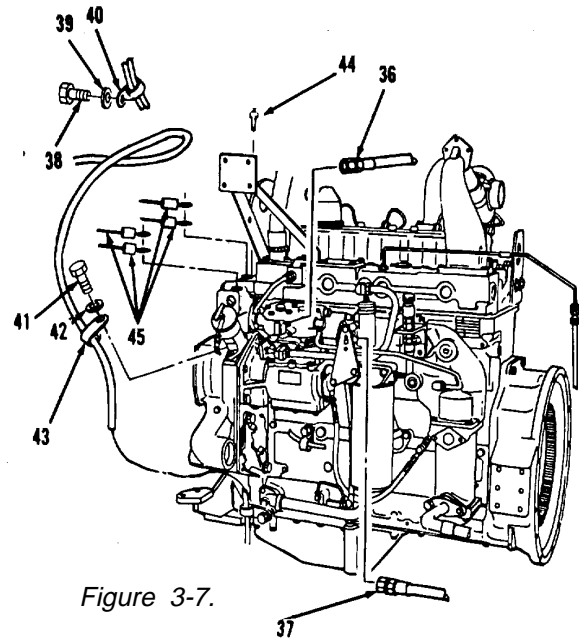

Figure 3-7.
- 23. Remove 12 bolts (34) and engine, disconnecting engine-to-transmission adapter from engine.
- 24. Disconnect hose assemblies (36 and 37, Figure 3-7) from air compressor and air compressor governor on left side of engine.
- 25. Remove bolt (38), washer (39) and clip (40) from supplemental steering motor mounting bracket on front of engine.
- 26. Remove bolt (41), washer (42) and clip (43) from front, left side of engine.
- 27. Remove three screws (44) from top of water pump.
- 28. Disconnect three wire assemblies (45) at terminals from coolant temperature switch.